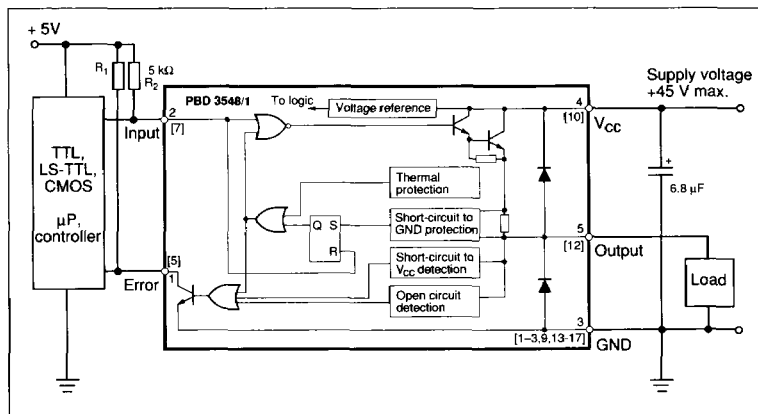

Figure 19. Typical application. Pin numbers refer to TO 220 package.
3. Connect Input and Error via pull-up resistors to the appropriate logic supply level or V_{cc} to obtain highest noise immunity. See figure 19. The resistor R_1 limits the current into the Error indicator pin. This current must not exceed 8 mA. R_2 is a pull-up resistor which improves noise immunity at the Input. Pull-up current should not exceed the sinking capacity of the controlling device output.